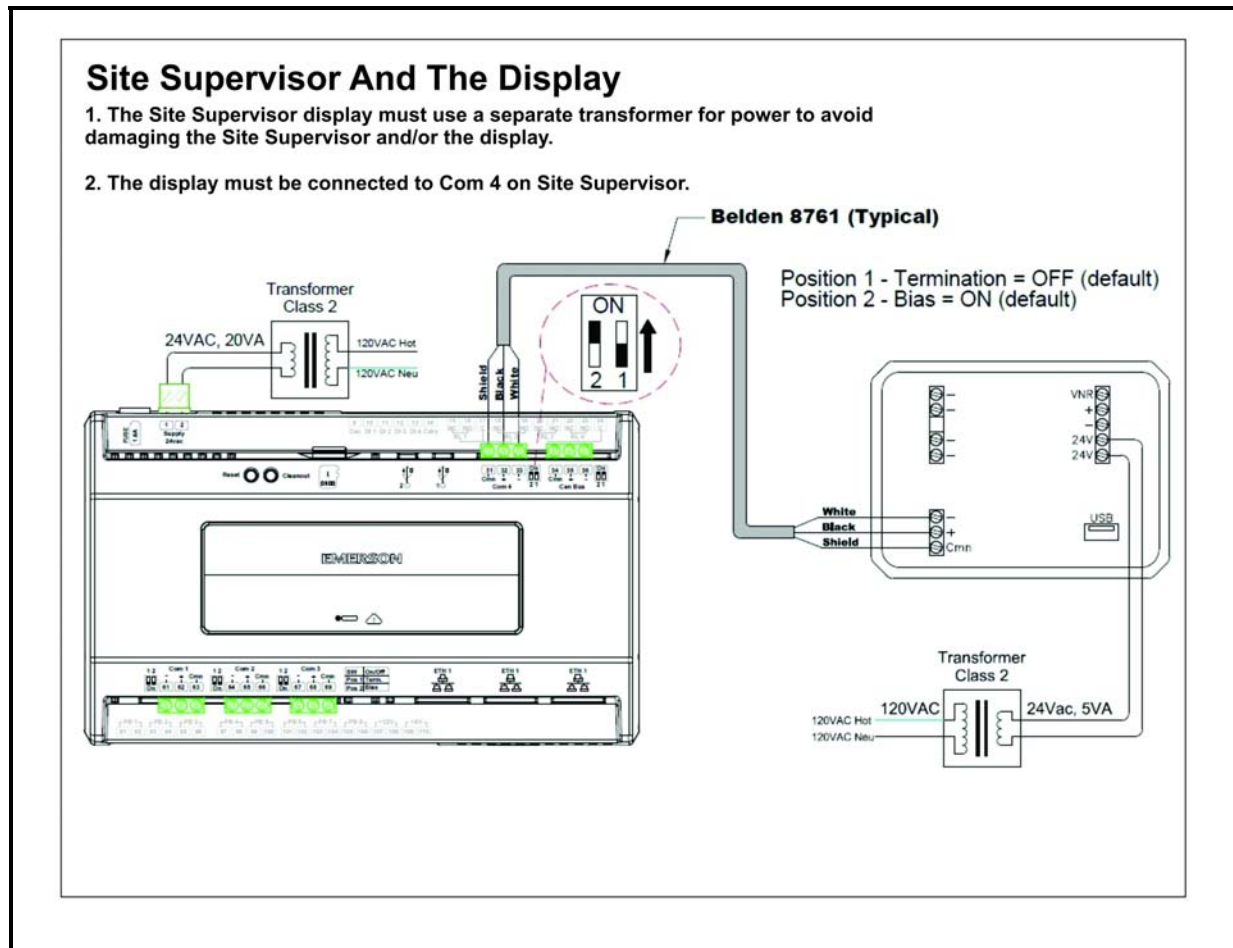

Figure 4-4 - Power and Network Connections for Panel-Mount Site Supervisor Display - Back View of Site Supervisor Display
1. Insert the USB drive into the Site Supervisor display USB port (located on the back of the Site Supervisor display (*Figure 4-4*)).